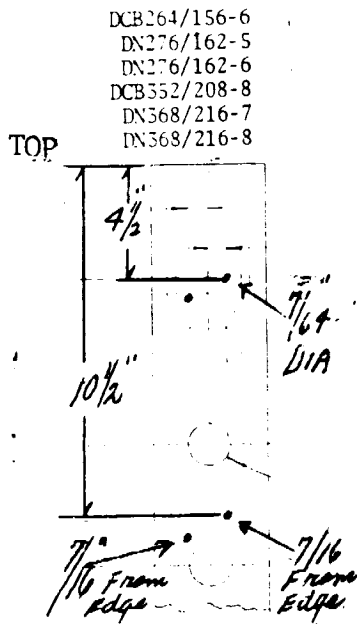

FIG. 1 (Front)
2. Study the drawings, (Fig 1, 2 & 3).
- C-1 See Fig. 1